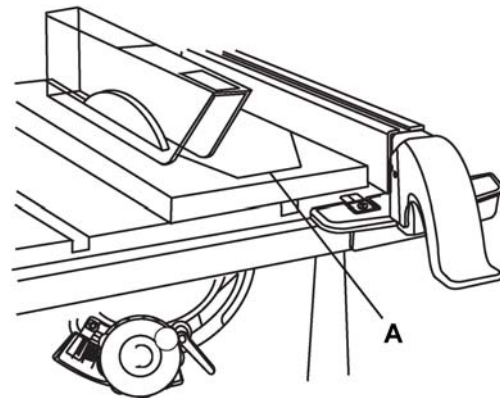

Figure 34
6. Slowly feed the workpiece into the blade by pushing forward only on the workpiece section (A, Fig. 34) that will pass between the blade and the fence.